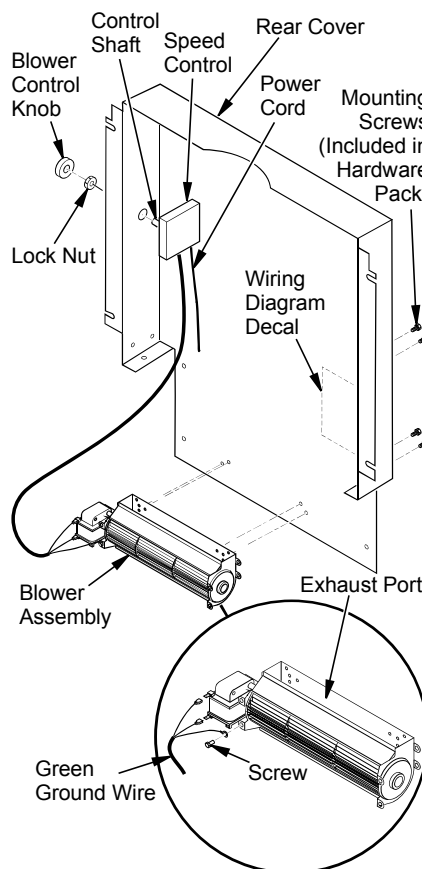

Figure 25 - Installing Optional Blower Accessory
- Align the holes in the top mounting tabs of blower with the holes in wall of rear cover (see Figure 25, page 11). Using the 4 screws provided, mount blower and tighten screws securely.
- Attach green ground wire from power cord to blower housing using screw provided (see Figure 25, page 11). Tighten screw securely.
7. Place speed control on left inside of rear cover and push the plastic control shaft through opening (see Figure 25).
8. While supporting speed control, secure control shaft with lock nut by pushing and turning lock nut with pliers clockwise until tight against the side of rear cover. Place control knob provided onto shaft (see Figure 25).
11. Peel off the backing paper and stick the supplied wiring diagram decal on the inside of rear cover as shown (see Figure 25).
13. Reattach bottom cover to rear cover with 8 screws (see Figure 25). Make sure that you don't pinch any wires during reassembly.
14. Secure rear cover to back of stove chassis (see Figure 25).